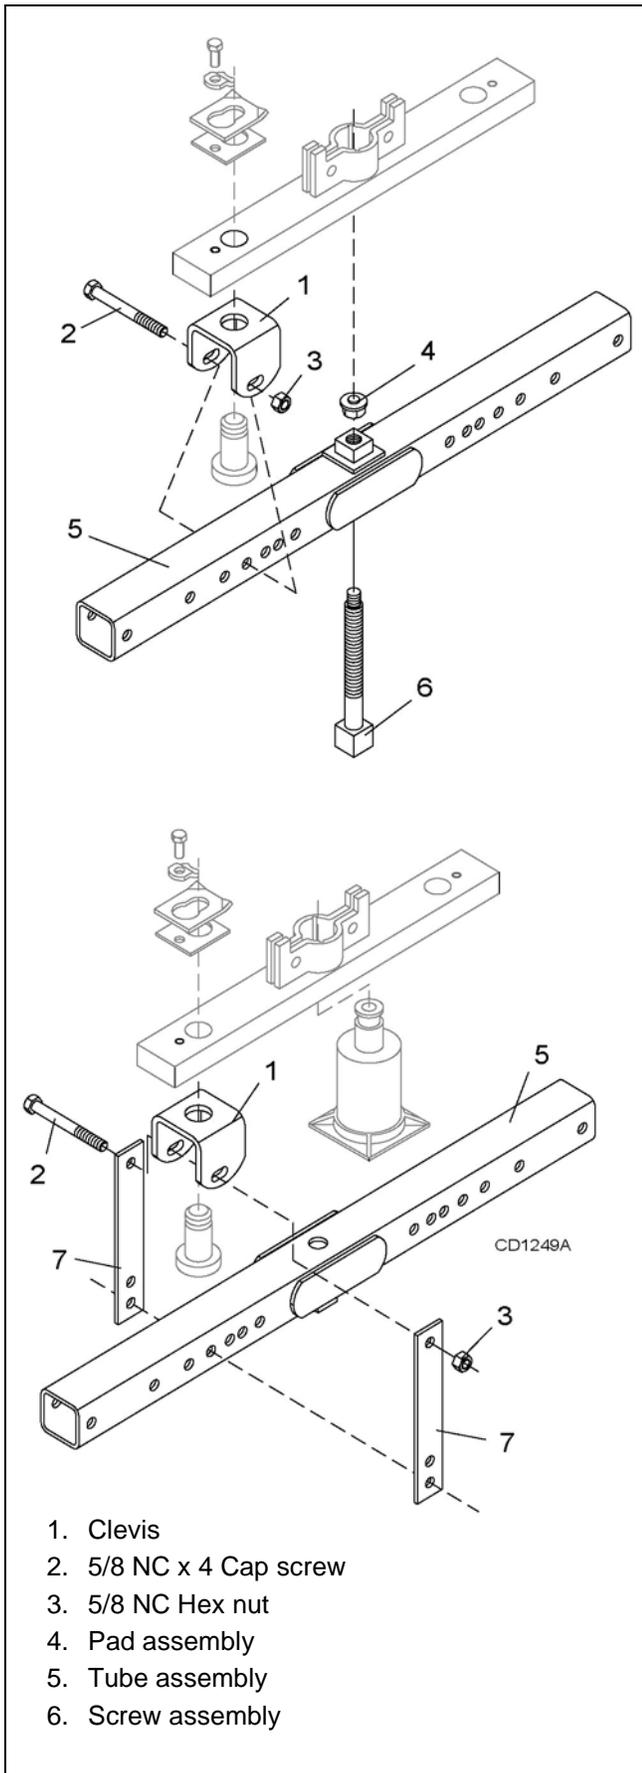

Figure 18. Crossbar Removal
NOTE: You will need to use either the puller screw (Item 6, Figure 18) or a small hydraulic jack to remove the crossbar.
3. Remove cotter pin (34) and castle nut (33) from bottom of crossbar.
4. **Refer to Figure 18.** Attach a clevis (1) to each end of crossbar, using blade pins, spacers, keyhole plates, and blade pin clips.
5. Position tube assembly (5) with threaded nut toward crossbar for puller screw removal or down for hydraulic jack removal.
6. For removal with puller screw, attach tube (5) to each clevis with bolts (2) and nuts (3). Place pad (4) in nut and thread puller screw (6) into nut from bottom. Tighten until pad is solid against gearbox shaft. For best results, strike head of puller screw with a hammer while tightening with a wrench.
7. For removal with a jack, attach tube to each clevis with puller links (7), bolts (2), and nuts (3). Place jack on tube with end of jack pressing against gearbox shaft. Slowly apply force with jack.